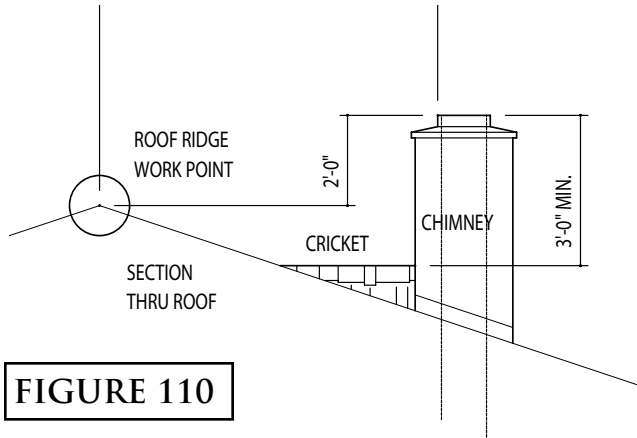

FIGURE 110
- (1) If the horizontal distance from the roof ridge to the opening of the chimney is less than 10’, the top of the chimney must be at least 2’ above the roof ridge (Figure 110).